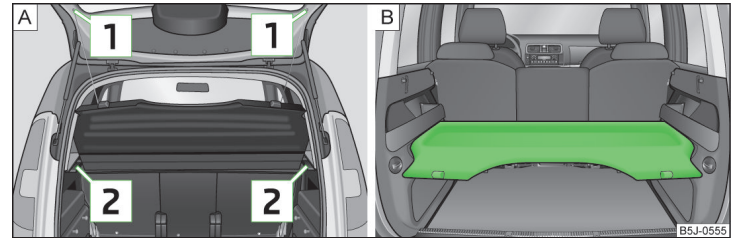

Fig. 66 Removing the luggage compartment cover/luggage compartment cover in the lower position
- Unhook support straps **1** » Fig. 66.
The luggage compartment cover can also be fitted in the lower position on the supporting elements » Fig. 66 - **B**.